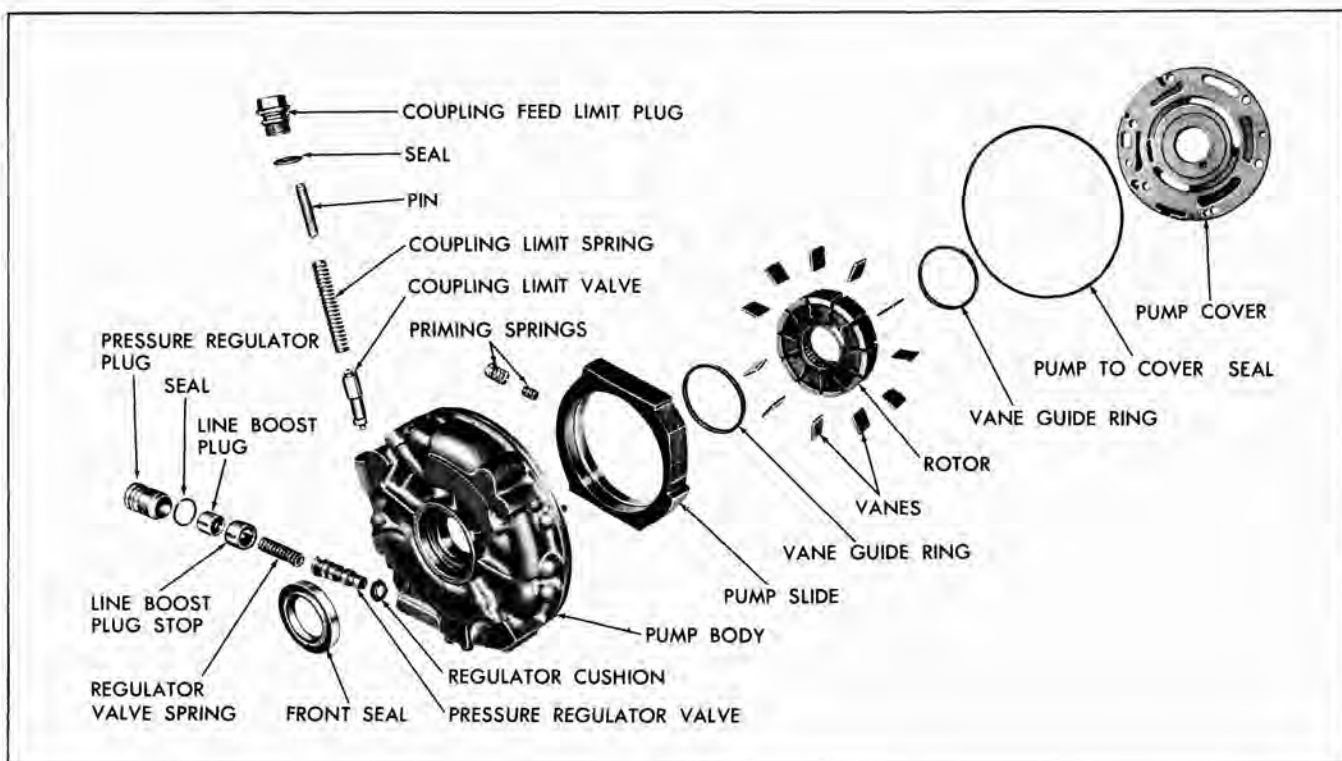

Fig. 75 Pump Assembly—Exploded
4. Remove the top vane guide ring, rotor, 11 vanes and bottom vane guide ring (Fig. 75).